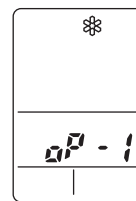

Fig. 59b
- After a few seconds, “❄” appears and “oP-1” blinks in the remote controller display area. (Fig. 59b)